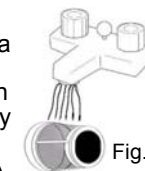

Fig. 15
3. "TapClean" the debris screen or rinse under a faucet until clean. (Fig. 15) Debris screen must be completely dry (24 hours) be re-installing on the HEPA filter.